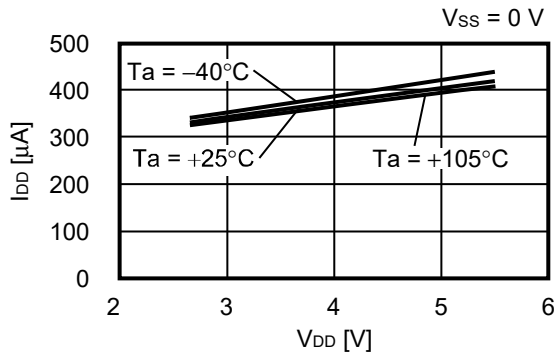

**Figure 17**
- When using the voltage follower circuit (Gain = 1 time), connect a resistor of 470  $\Omega$  or more for the stable operation as shown in **Figure 17**. The operation may become unstable depending on the value of the load capacitance connected to the output pin, even when the voltage follower circuit is not used. Use the product under thorough evaluation.